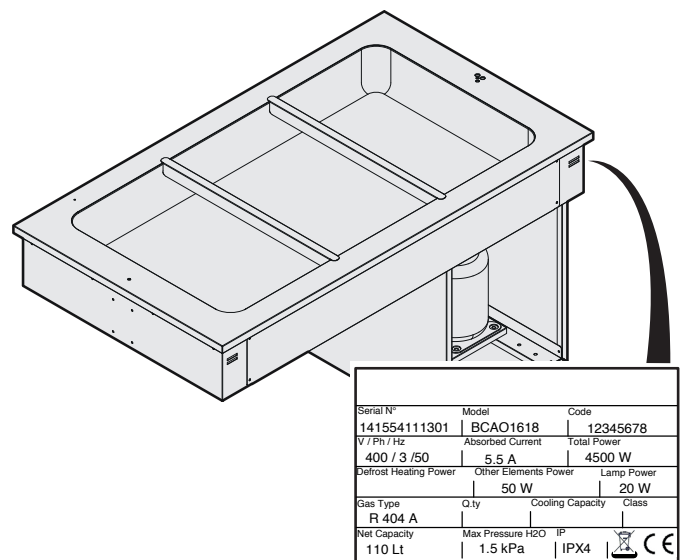

Fig. 1
- Note the unit data on the rating plate (Fig. 1).